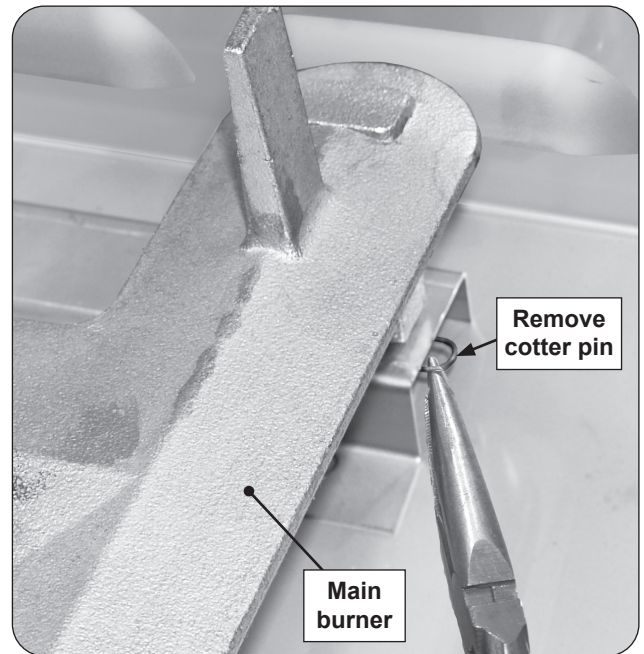

Fig. 36-1 Main burner removal
2. Locate and remove the cotter pin from the left or right rear burner anchoring peg by pulling it straight out of the cotter pin hole using fingers or needle-nose pliers. See Fig. 36-1.